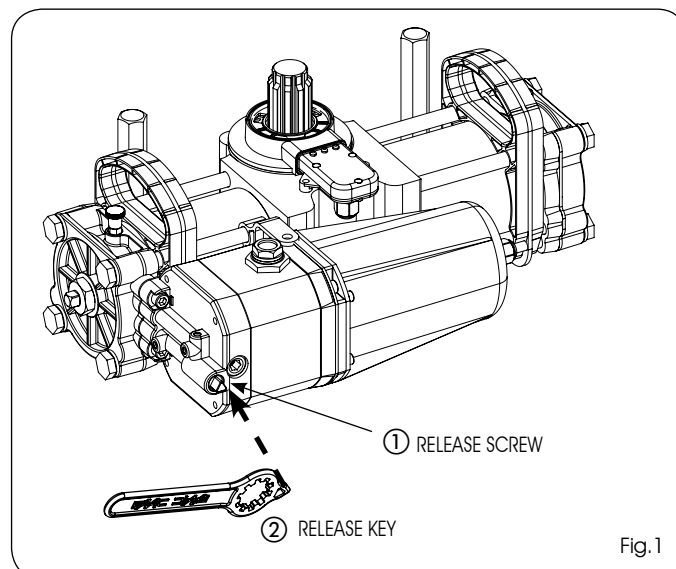

Fig.1
- 2) Turn the release screw (Fig.1 ref.①) inserting the triangular recess of the supplied key (Fig.1 ref.②):